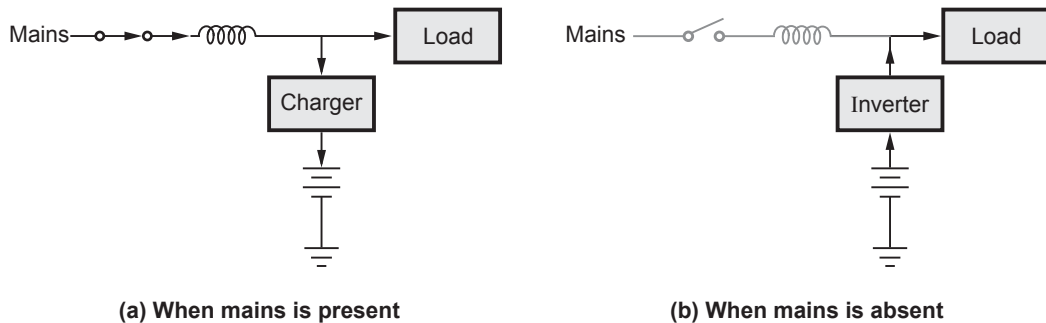

Fig. 6.10.6 Power flow in line interactive UPS
- When the mains supply is present, the static switch is 'on'. The static switch connects load to mains supply through inductor L. The batteries are charged through the charger block. Fig. 6.10.6 (a) shows the power flow diagram.